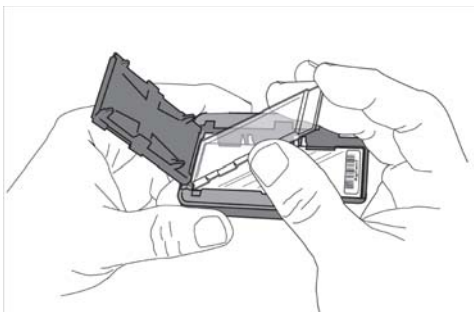

Figure 10 Inserting the ozone-barrier slide cover
- In environments in which the ozone level exceeds 5 ppb, immediately put the slides with active microarray surface (“Agilent”-labeled barcode) facing up in a slide holder. Make sure that the slide is not caught up on any corner. Put an ozone-barrier slide cover on top of the array as shown in Figure 10. Refer to the *Agilent Ozone-Barrier Slide Cover User Guide* (p/n G2505-90550), included with the slide cover, for more information.